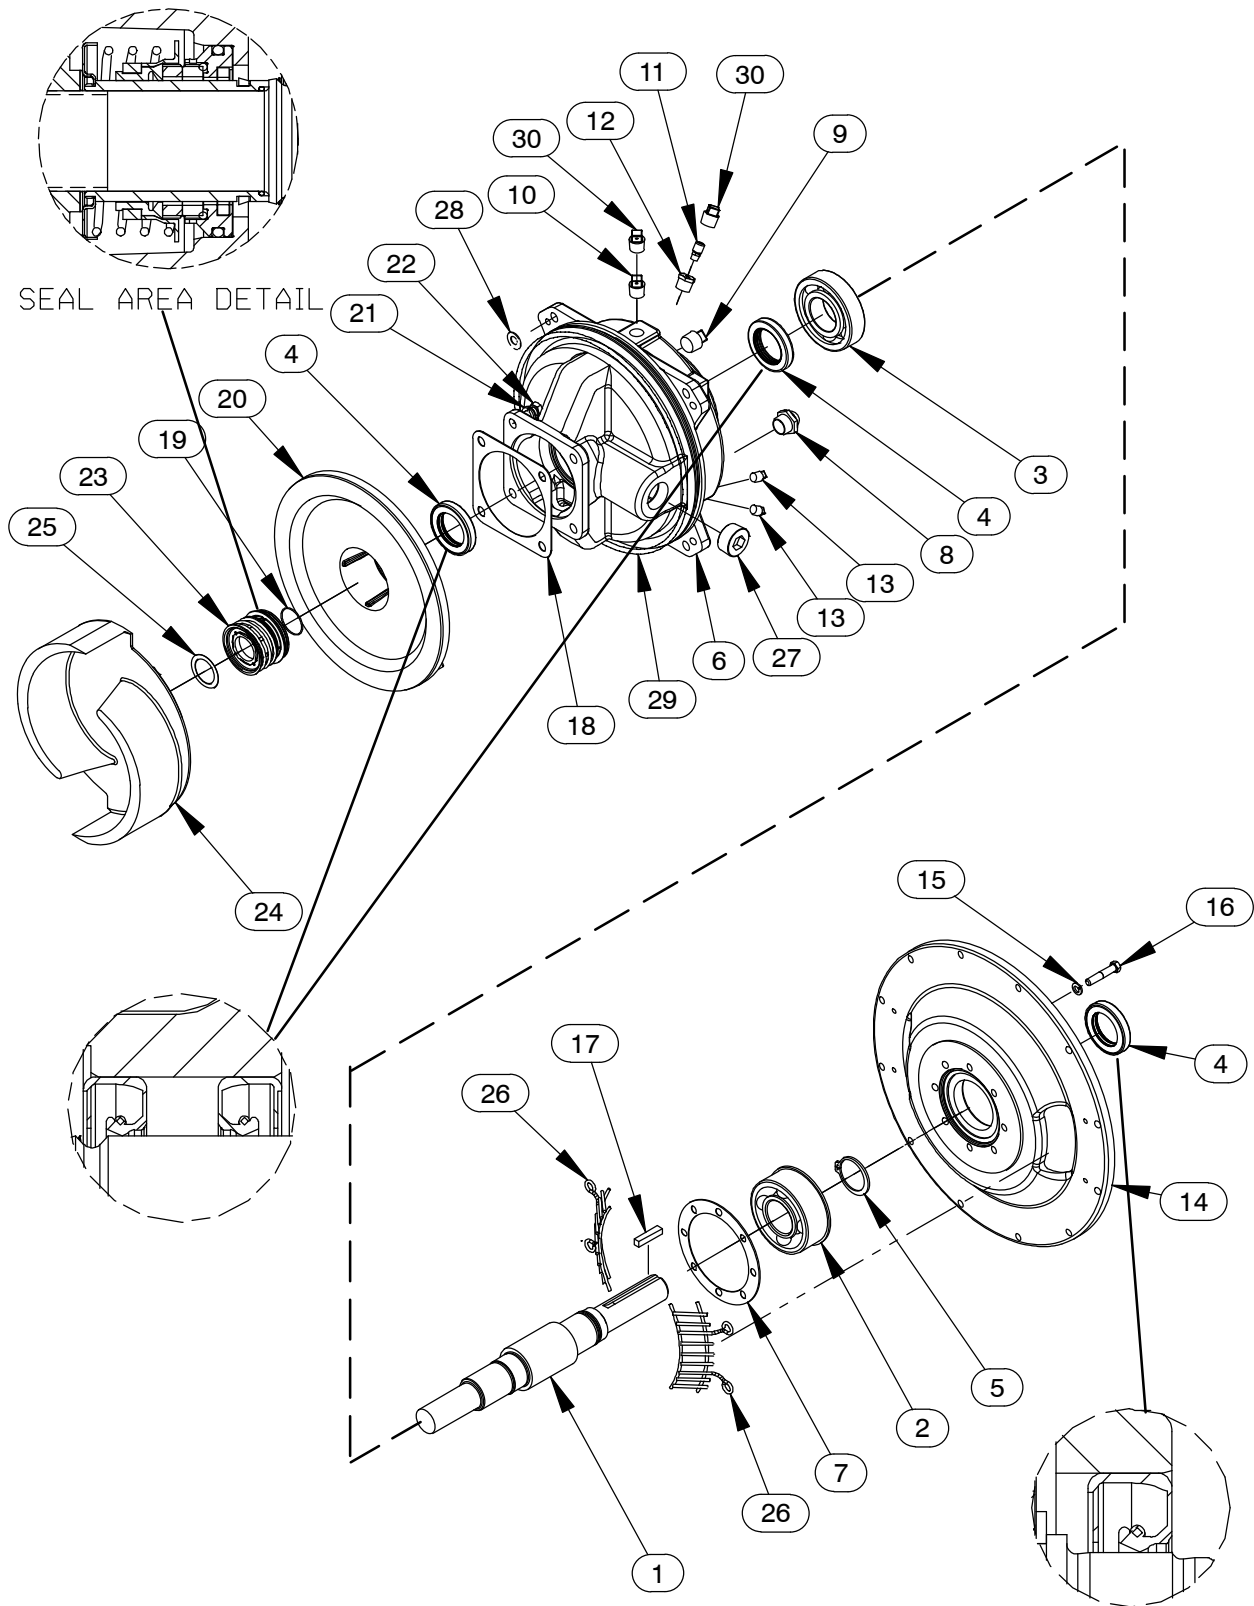

Figure 4. Repair Rotating Assembly
and remove the guards (26, Figure 4). Separate the pump end and drive assembly from the engine by pulling the pump end straight away from the engine.
As the assemblies separate, the flexible portion of the coupling assembly (2) will remain on the shaft. To remove the coupling from the shaft, unscrew the two allen head setscrews from the bushing (1). Screw one of the setscrews into the puller hole on the circumference of the bushing. As the coupling and bushing separate, remove the bushing, and slide the coupling off the shaft. Remove the shaft key (17, Figure 4).